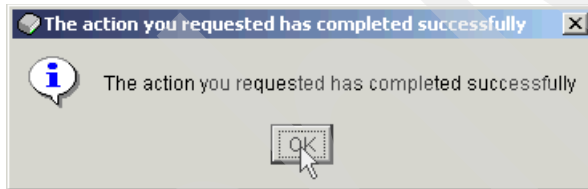

Figure 5-34 Disks added successfully to the disk pool
13. When the process is complete, a message window displays. Click **OK** as shown in Figure 5-34.